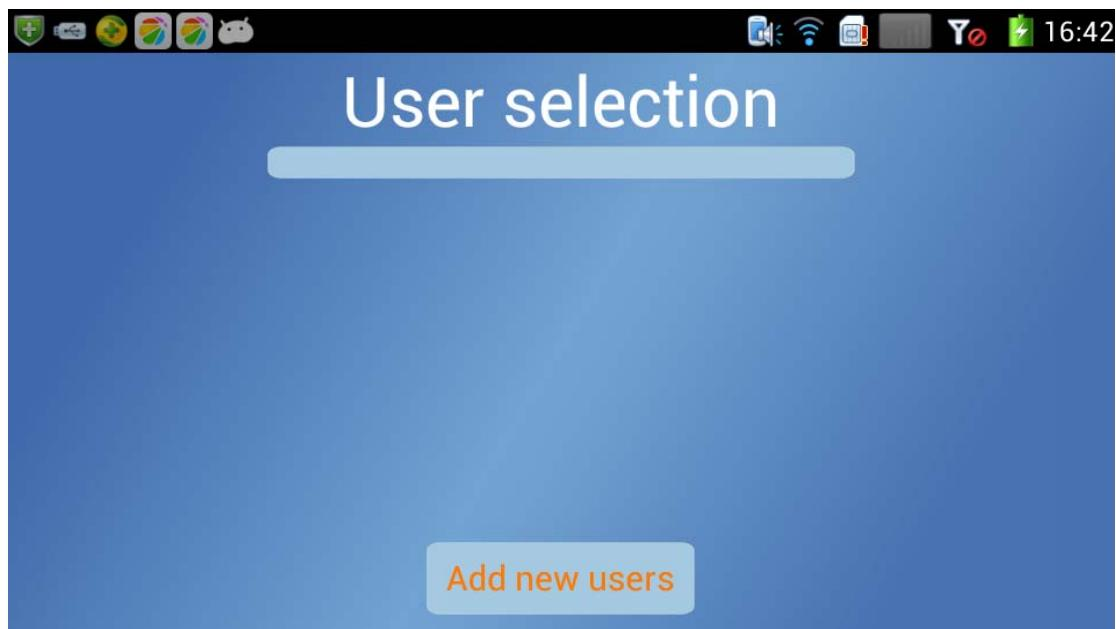

Figure 9
- a. Open the mobile phone, and double-click SpO2 software icon "SpO2". And enter the following interface. (as shown in **Figure 9**)